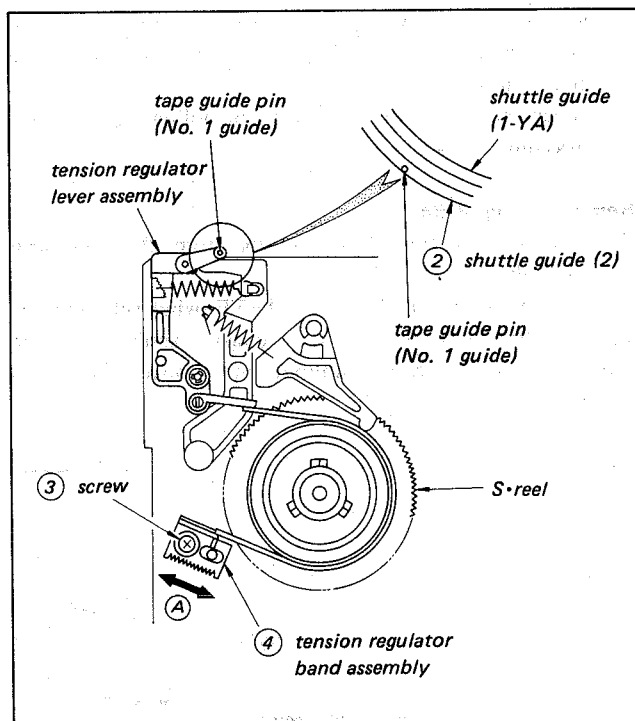

Fig. 3-32. Tension Regulator Lever Position Adjustment
- 2) Loosen the screw ③ and adjust by moving the tension regulator band assembly ④ in the direction of the arrow A until the tape guide pin (No. 1 guide) of the tension regulator lever assembly ① is positioned inside the outer circumference of the shuttle guide (2) ② as shown in Fig. 3-32.
- 3) After making the adjustment, tighten the screw ③ carefully in order not to move the tension regulator band assembly ④.